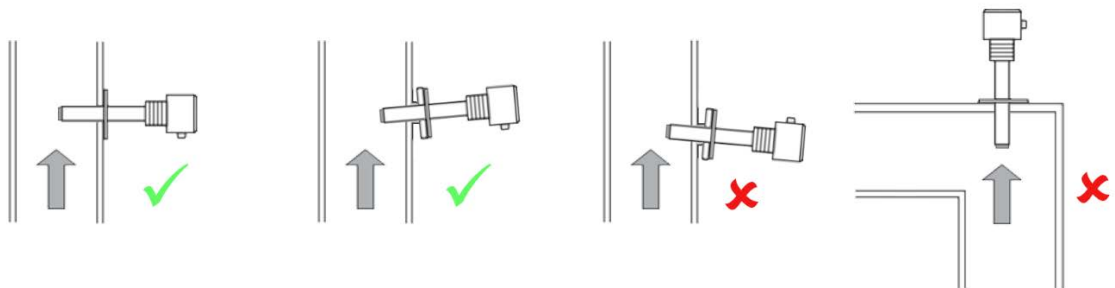

Figure 7 *Mounting Examples*
- Allow the gas flow straight into the gas sampling tubes: refer to figure 7.